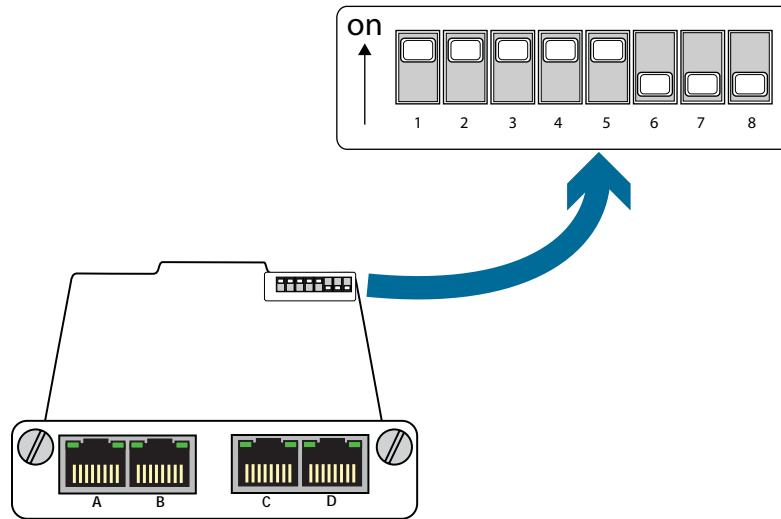

Figure 22: V-Line Aggregate mode
- ❖ To set Aggregate mode on V-Line (Bypass) modules, set the DIP switches as shown in *Figure 22*. See *Appendix B, V-Line DIP Switches* on page 52 for switch key.